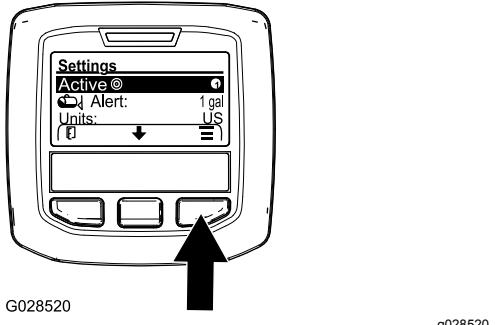

Figure 69
2. Press the center selection button to highlight the Active application rate setting (Figure 69).
3. Press the right selection button to toggle between application rate 1 and 2 (Figure 69).